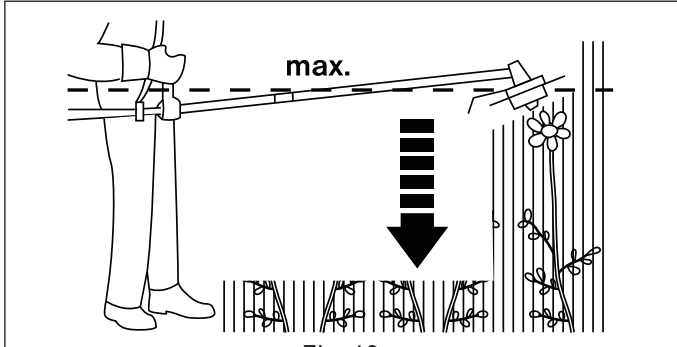

Fig. 13
- 4). Never hold the cutting head higher than your hip; the higher you hold the cutting head will increase the risk of objects being thrown. (See Fig. 13)